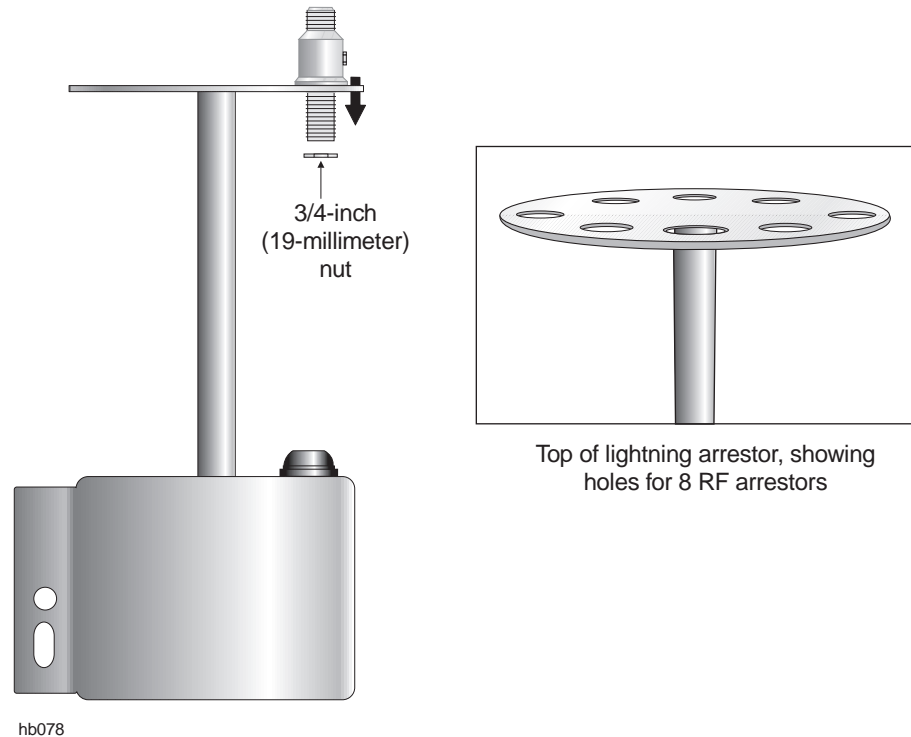

Figure 5-5 Attaching the RF arrester to the arrester body
1. Attach an RF arrester to the arrester body with a 3/4-inch (19-millimeter) nut. See figure 5-5.